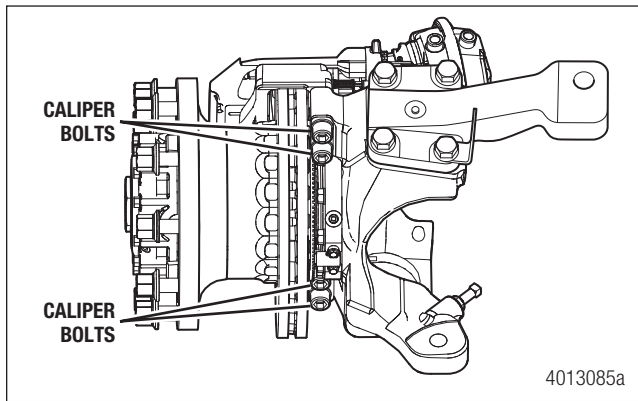

Figure 9.3
4. Use an Allen-head socket wrench to remove the caliper bolts and washers. Use an appropriate lifting device to carefully remove the caliper assembly from the axle. Figure 9.3.